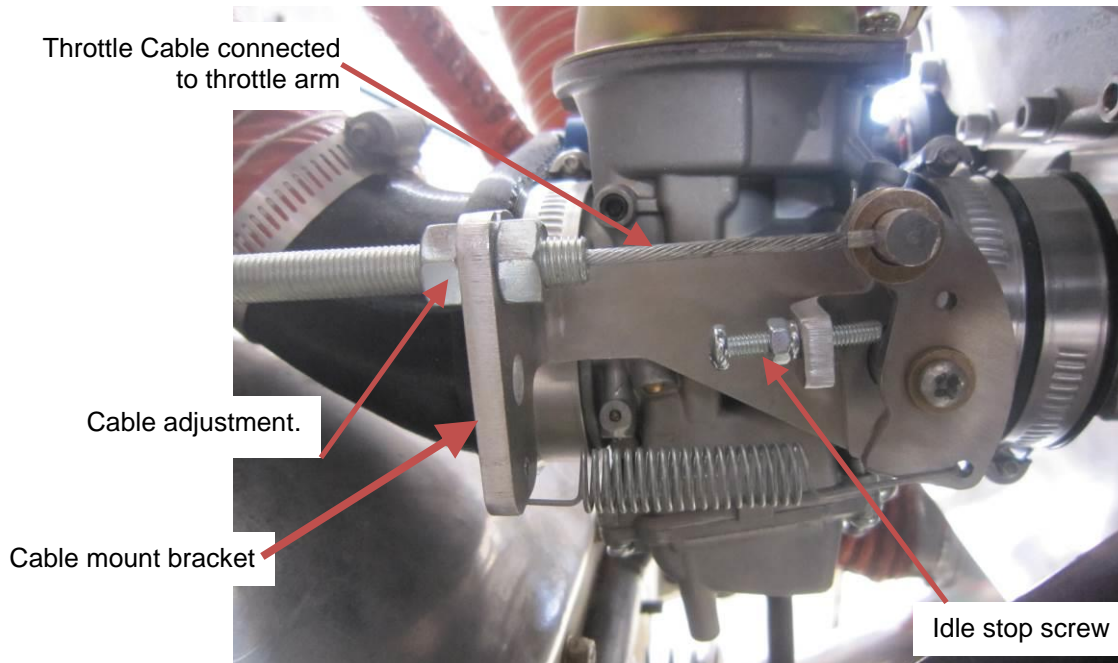

Figure 2: Throttle cable connections.
- The idle stop for the throttle can be adjusted using the adjuster screws and nuts shown in Figure 2. A 7mm spanner and a phillips screwdriver is required.
- The Idle Stop Screw (shown in Figure 2) must be adjusted as a part of the engine installation process to correctly set idle RPM.